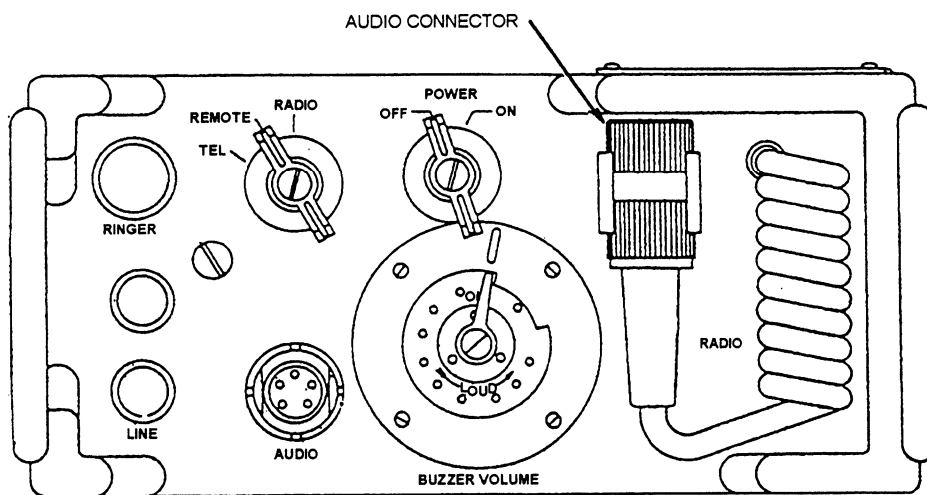

Figure 11-11.—Led control unit C-2329/GRA-39.
**LOCAL CONTROL UNIT.**— The local control unit (fig. 11-11) is of the same general construction as the remote control unit. The local control unit is connected to the remote control unit by field wire. The local control unit is connected to the radio set being remote with the audio connector. The power supply, composed of six